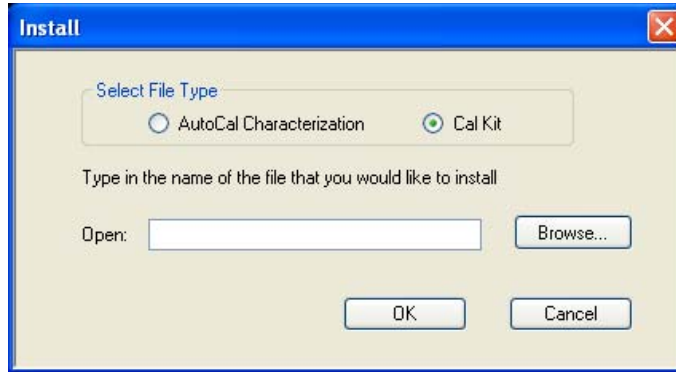

Figure 3-1. Install Dialog Box
19. Select Cal Kit file type and then click the Browse button. See Figure 3-1 below.